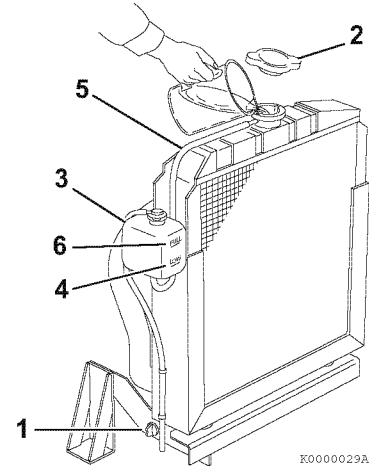
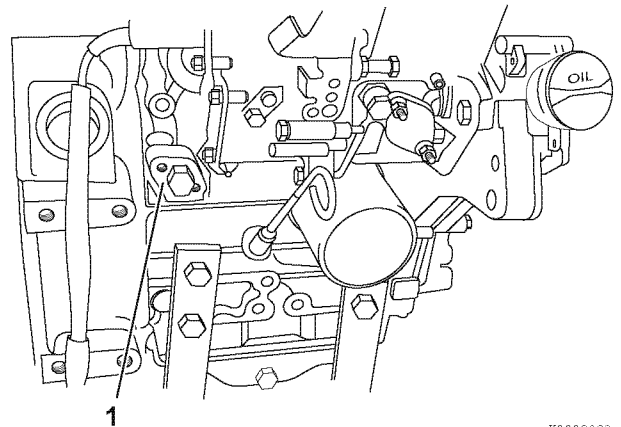

Figure 4-9
Figure 4-10
1. Check to be sure the radiator drain plug is installed and tightened or the drain cock (1, **Figure 4-9**) is closed. Also make sure the coolant drain plug (1, **Figure 4-10**) in the cylinder block is closed.
2. Remove the radiator cap (2, **Figure 4-9**) by turning it counterclockwise about 1/3 of a turn.
4. Reinstall the radiator cap (2, **Figure 4-9**). Align the tabs on the back of the radiator cap with the notches on the engine coolant filler port. Press down and turn the cap clockwise about 1/3 of a turn.
5. Remove the cap of the reserve tank (3, **Figure 4-9**), and fill it to the LOW (COLD) mark (4, **Figure 4-9**) with engine coolant. Reinstall the cap.
6. Check the hose (5, **Figure 4-9**) that connects the reserve tank (3, **Figure 4-9**) to the radiator. Be sure it is securely connected and there are no cracks or damage. If the hose is damaged, engine coolant will leak out instead of going into the reserve tank.
7. Run the engine until it is at operating temperature. Check the level of engine coolant in the reserve tank. When the engine is running and the engine coolant is at normal temperature, the coolant level in the tank should be at or near the FULL (HOT) mark (6, **Figure 4-9**). If the engine coolant is not at the FULL (HOT) mark (6, **Figure 4-9**), add additional engine coolant to the reserve tank to bring the level to the FULL (HOT) mark.